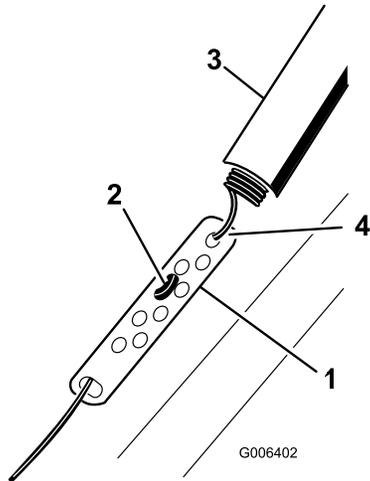

Figure 25
1. Slide up the spring cover and unhook the spring from the adjuster link (Figure 25).
2. Move the Z-fitting to a higher or lower hole on the adjuster link as needed to obtain the 1/16-inch to 1/8-inch (2 mm to 3 mm) gap between the control bar and the handle (Figure 25).